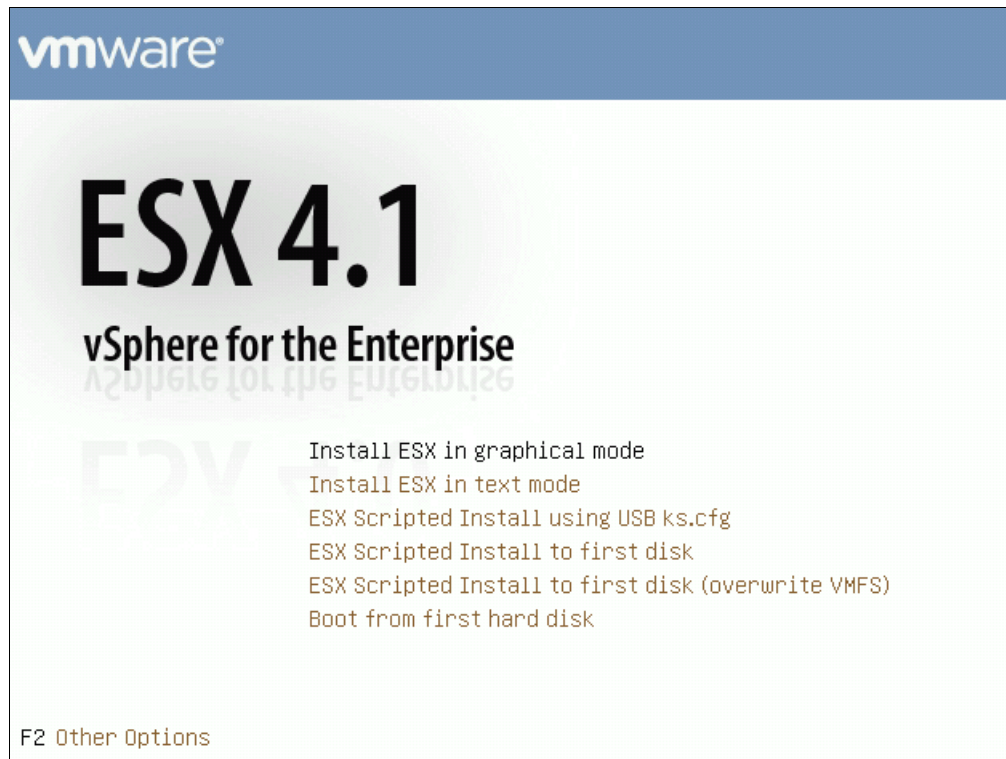

Figure 6-54 ESX installation options panel
8. Press F2 when you see the ESX 4.1 installation options panel, as shown in Figure 6-54.